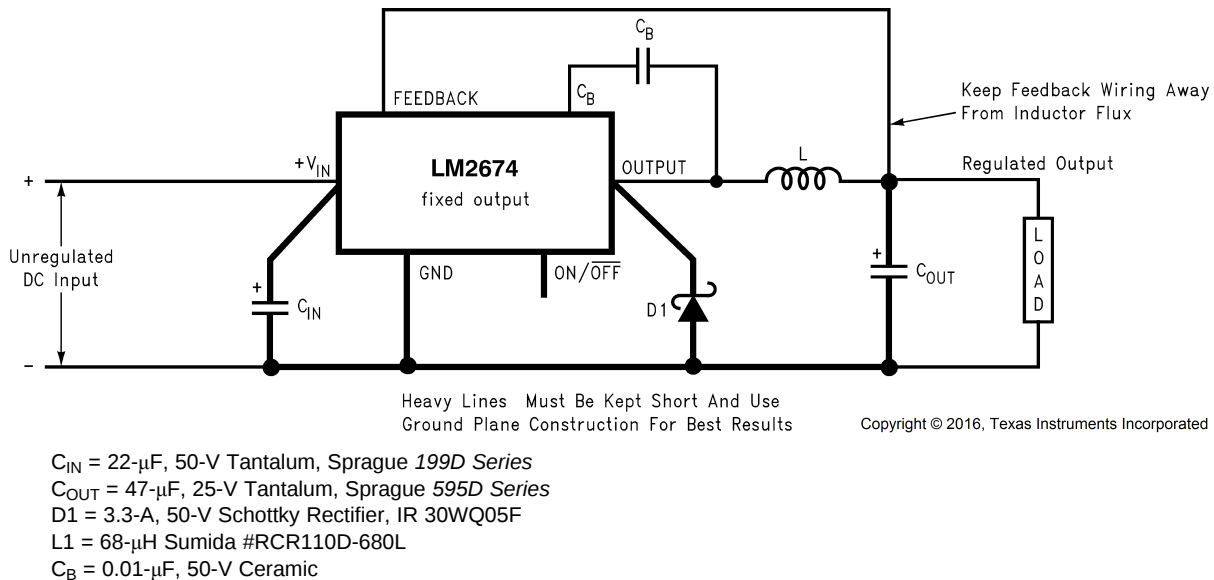

Figure 15. Fixed Output Voltage Version
(1) All limits are used to calculate Average Outgoing Quality Level (AOQL).
(2) Typical numbers are at 25°C and represent the most likely norm.
(3) External components such as the catch diode, inductor, input and output capacitors, and voltage programming resistors can affect switching regulator performance. When the LM2674 is used as shown in Figure 15 and Figure 19, system performance is as specified by the system parameters section of the Electrical Characteristics.